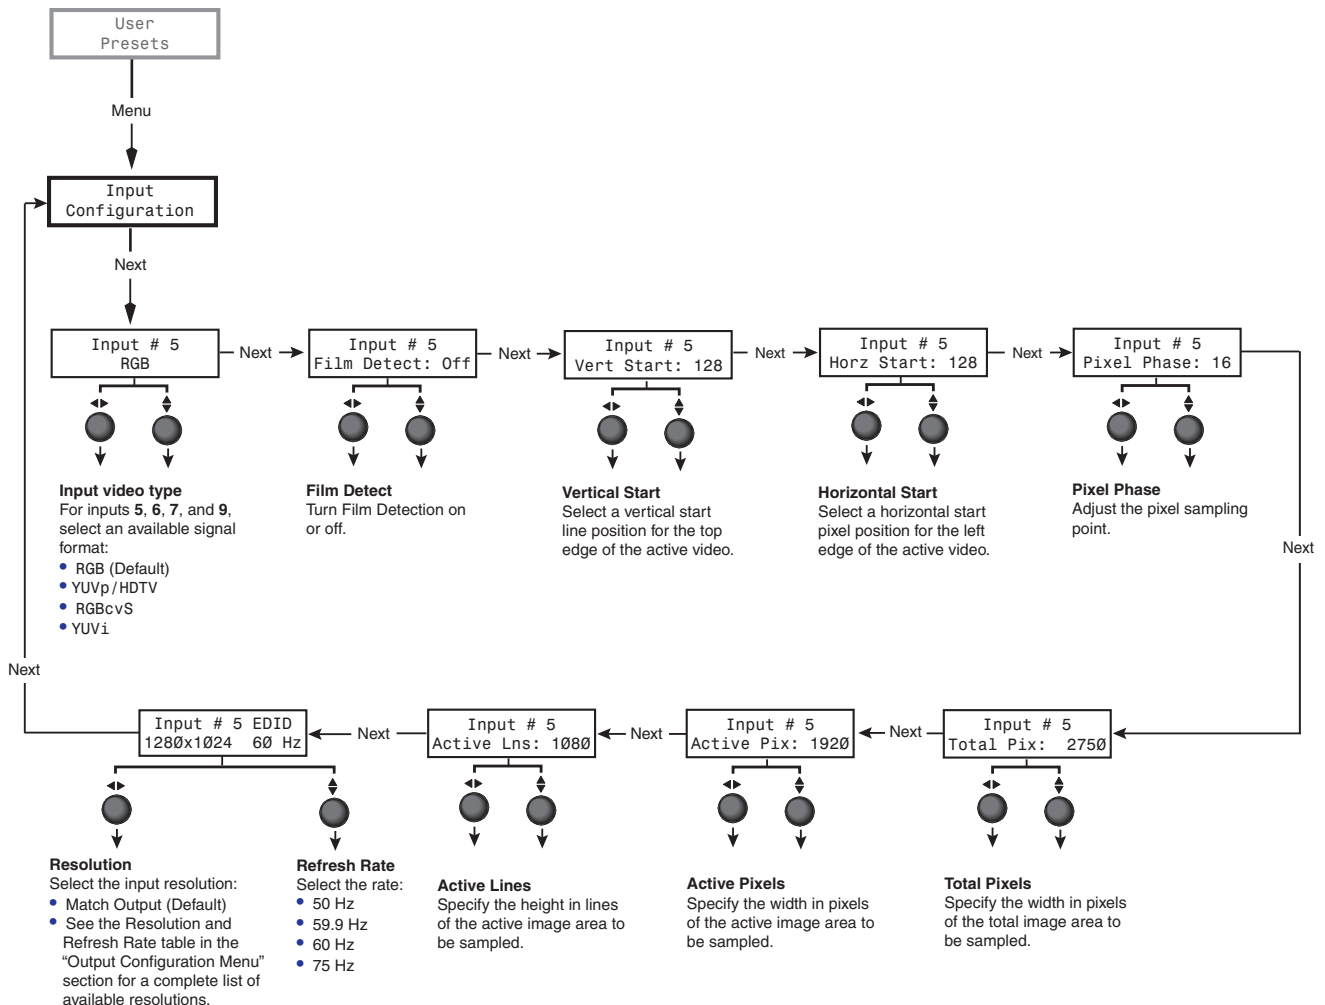

Figure 16. Input Configuration Menu
2. Press the **MENU** button until **Input Configuration** is displayed in the LCD window (see figure 16 on the previous page).